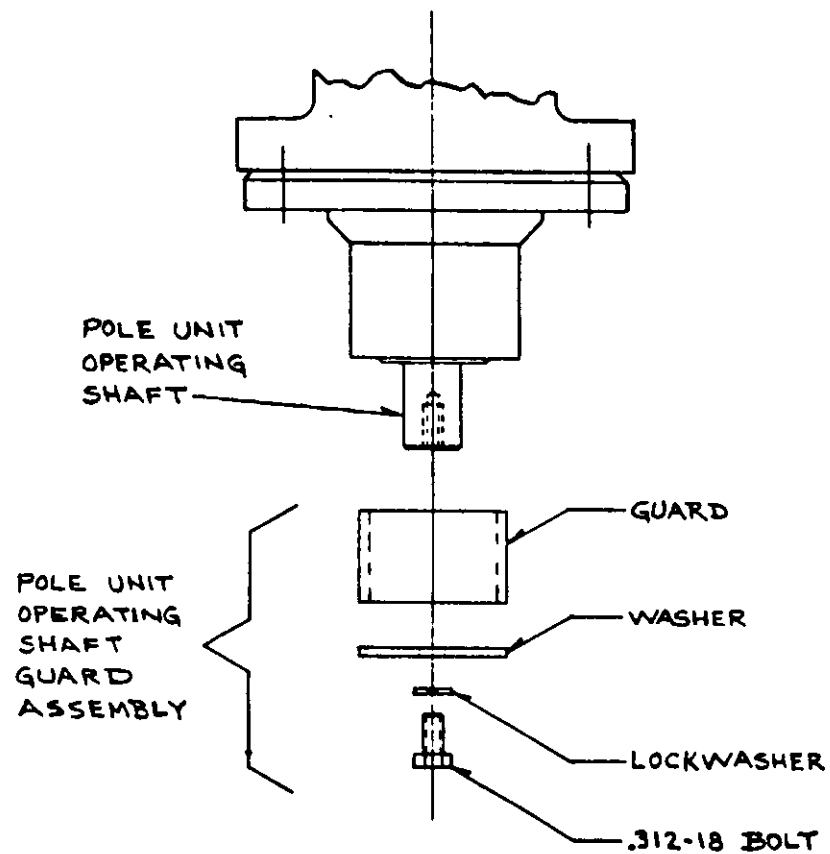

Figure 4 — Knocked Down Pole Unit Shipping Guard.
18. Remove Phase 3 pole unit operating shaft guard assembly by removing the .312-18 bolt, lockwasher, flat washer, and pipes. (See Figure 4, page 119.) These items are not required for pole unit installation. Be sure that the operating shaft extends approximately 1-7/16" beyond the shaft seal housing prior to pole unit which prevents the operating shaft from being pulled out beyond 1-7/16".